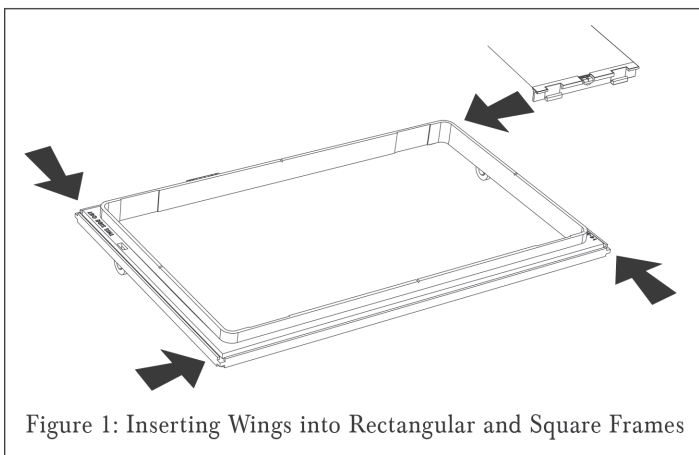
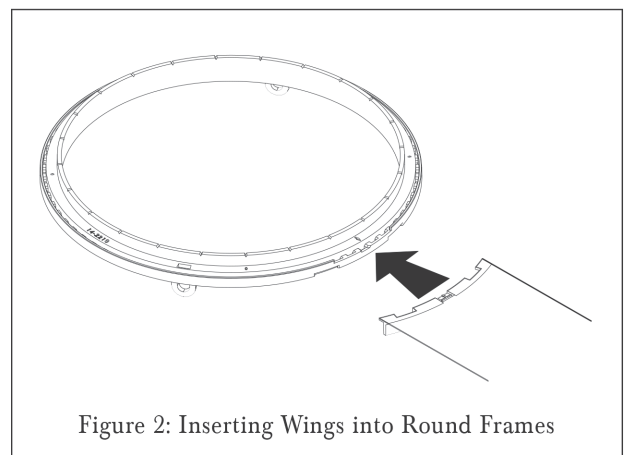

Figure 1: Inserting Wings into Rectangular and Square Frames
Figure 2: Inserting Wings into Round Frames
2. Insert the wings into rectangular and square Flex Bracket frames at the corner entry points (see *Figure 1*); insert the wings into round Flex Bracket frames at the single entry point marked with the arrow (see *Figure 2*).